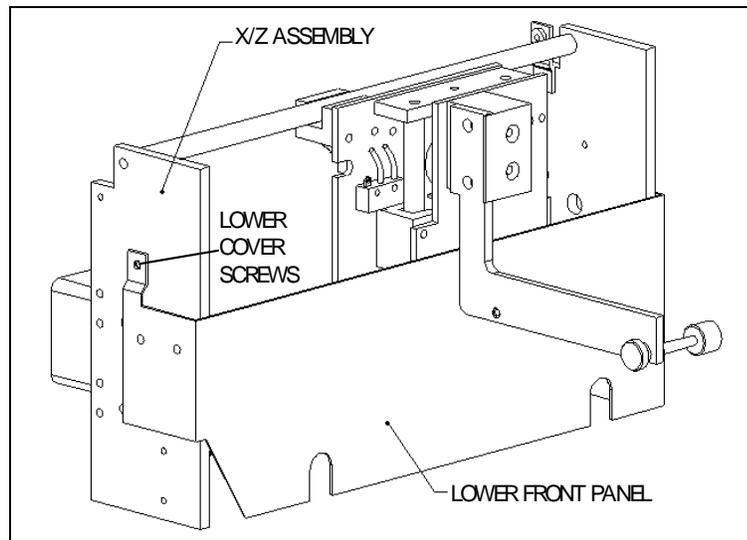

Figure 13-15 Removing the Lower Front Panel
- 1 Remove the two M3 X 6mm Caphead screws that attach the lower front panel to the X-Drive and Z-Drive assembly (Figure 13-15).